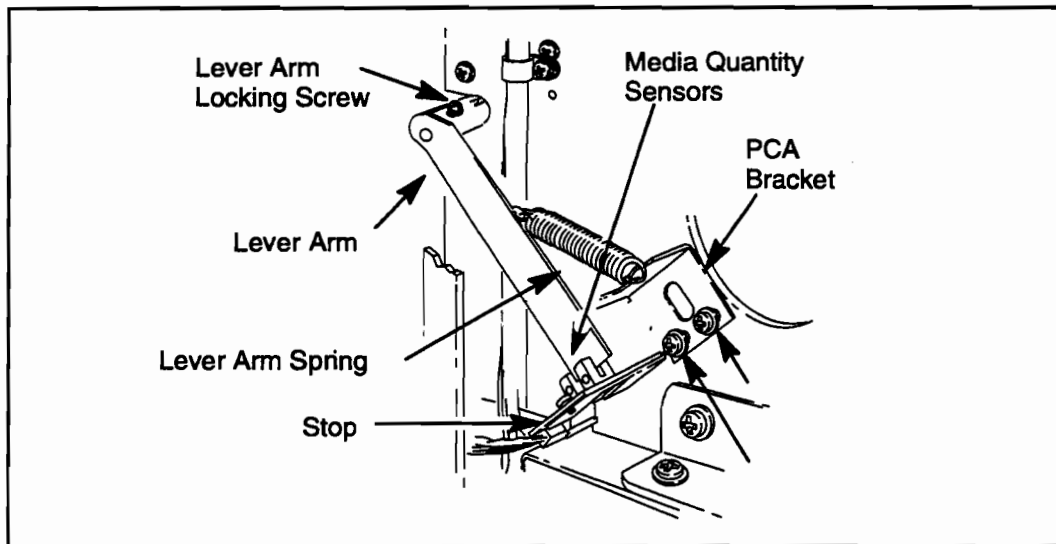

Figure 7-10. Media Quantity Indicator Adjustment
6. Observe the position of the lever arm shown in Figure 7-10. It will rest against the stop on the PCA bracket. The left edge of the lever arm should just clear the lower left media quantity sensor.
8. Observe that the lever arm in Figure 7-10 moves freely through the center notches of the media quantity sensors.
14. Ensure that the lever arm in Figure 7-10 is clear of both media quantity sensors.
15. Close the upper frame and top cover, install the power cord, and switch the plotter line switch to ON (I). After the plotter has initialized, ensure that all of the media LEDs except the empty LED are lit.